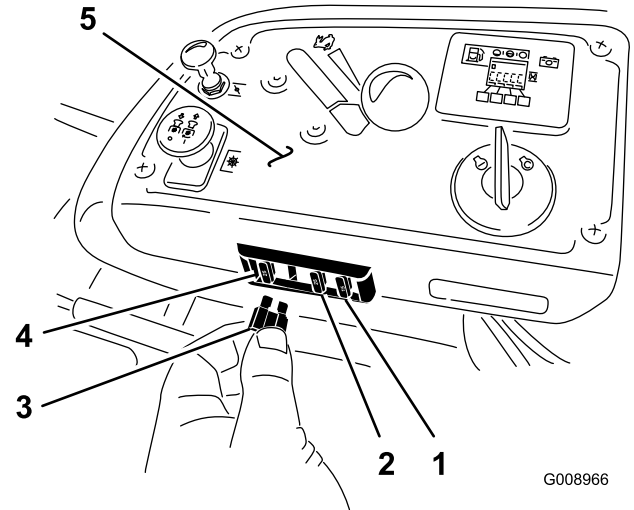

Figure 58
- The fuses are located on right hand console next to the seat (Figure 58).
- Install a new fuse (Figure 58).